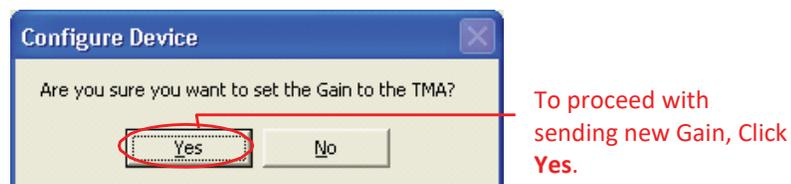

Figure 13-4. Choosing to continue sending new Gain to TMA
9. Click the **Set Gain** button to send the new Gain value to the TMA and to any sub units based on the check box (Apply New Gain...) selection. The user will be prompted to confirm that the new Gain is to be applied to the TMA. Click **Yes** to proceed with the sending of new Gain, or click **No** to return to the **TMA Device...Operation** screen (Figure 13-4).